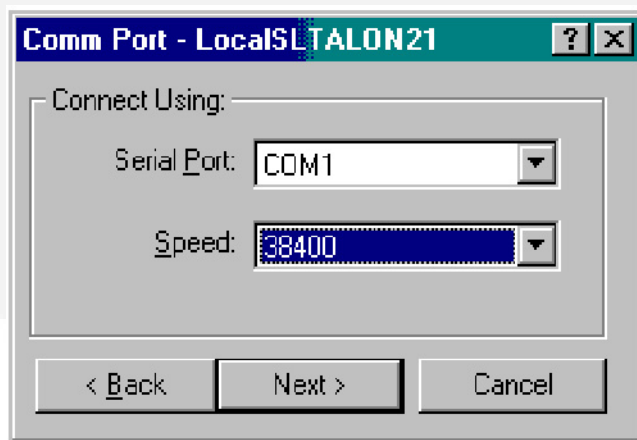

FIGURE 121. SLTA SETUP SPEED
**Local Setup:** For a local network application, enter a name and type for the link, **Name:** **LocalSLTALON1** and click on the **Local** button, click on the **Update Identifier** box to select it, then click on **Next** (Figure 121).